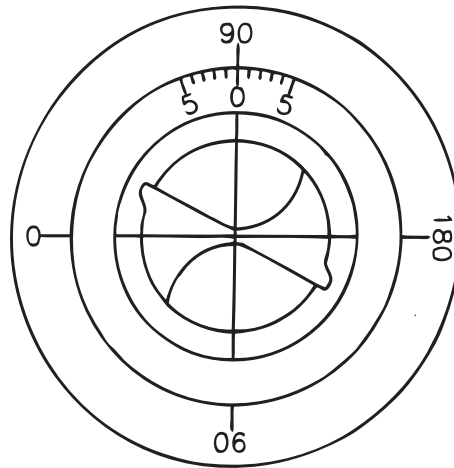

Figure 5
3. Adjust horizontal slide until the fixed hair line is tangential with the base of the flute (see figure 5) and rotate the drill against its back stop through 180° until the movable hair line is again, superimposed on, or parallel with the chisel edge. If the web is concentric, the base of the flute should be tangential with the base of the flute.